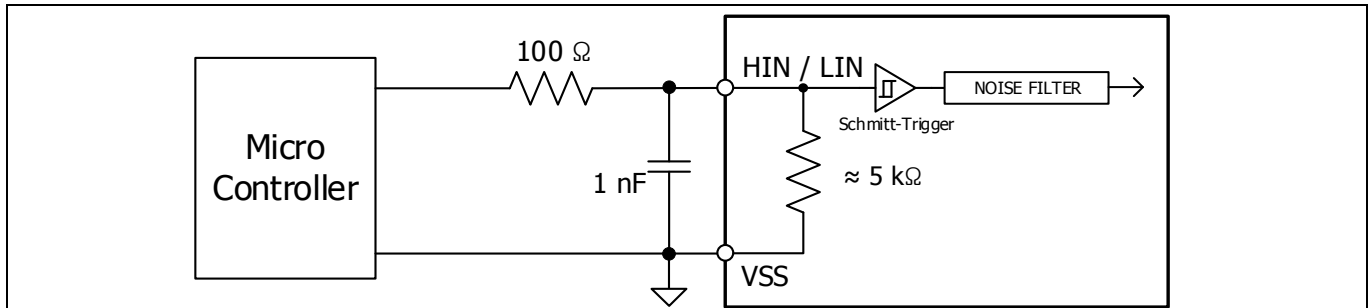
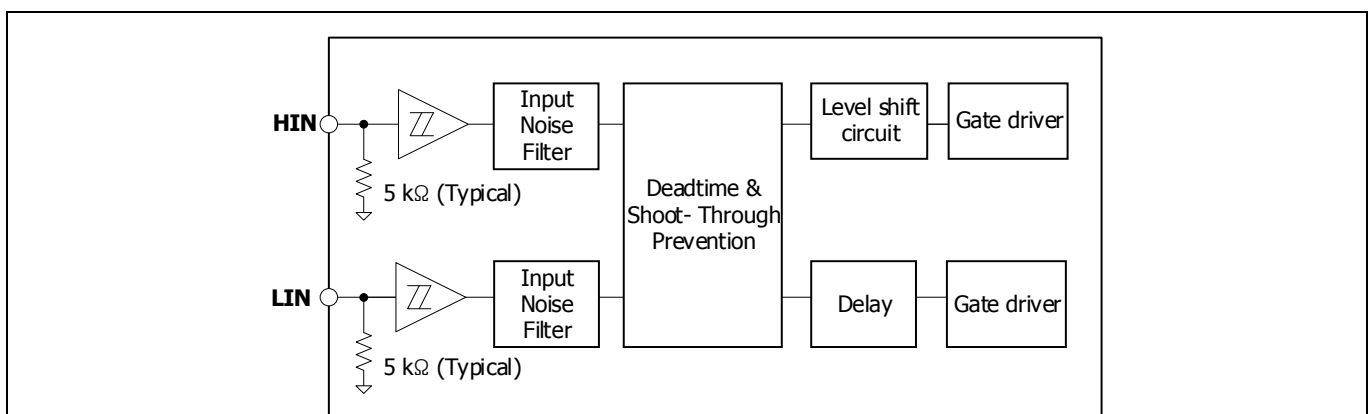

Figure 10 Recommended micro-controller I/O interface circuit
Figure 11 Simplified block diagram of IM818 gate driver IC
- To prevent signal oscillations, an RC coupling is recommended as illustrated in Figure 10.
Figure 10 shows the I/O interface circuit between micro-controller and IPM. The IPM input logic is active-high with internal pull-down resistors. External pull-down resistors are not needed.
As shown in Figure 11, the IM818 input signal section integrates a 5 kΩ (typical) pull-down resistor. Therefore, when using an external filtering resistor between micro-controller output and IPM input, pay attention to the signal voltage drop at the IPM input terminals. It should fulfill the logic "1" input voltage requirement. For instance, R = 100 Ω and C = 1 nF for the parts shown in Figure 10.